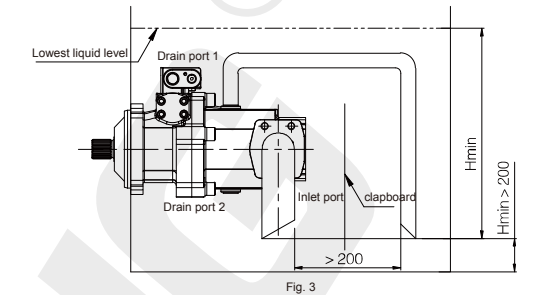

Fig. 3
- When the minimum fluid level is above the pump top, blocked Drain Port 2, piping Drain Port 1 and pump suction port, see Fig. 3.